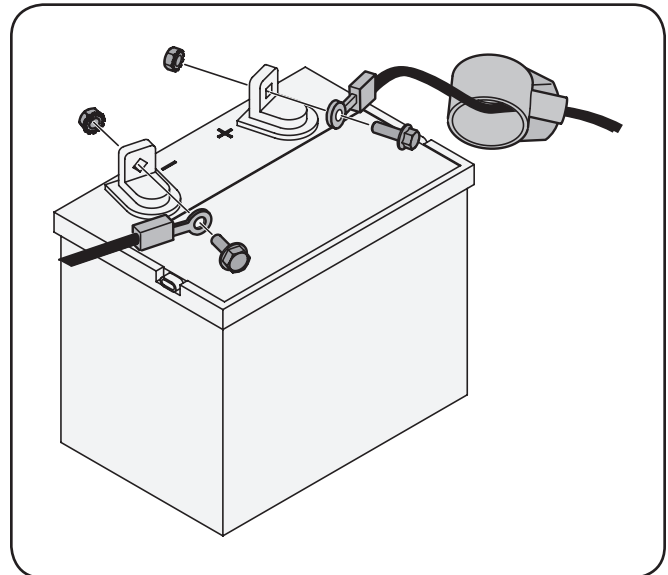

Figure 3-2
1. Attach the red cable to the positive(+) battery terminal and the black cable to the negative(-) battery terminal with the bolts and hex nuts provided. See Fig. 3-2.